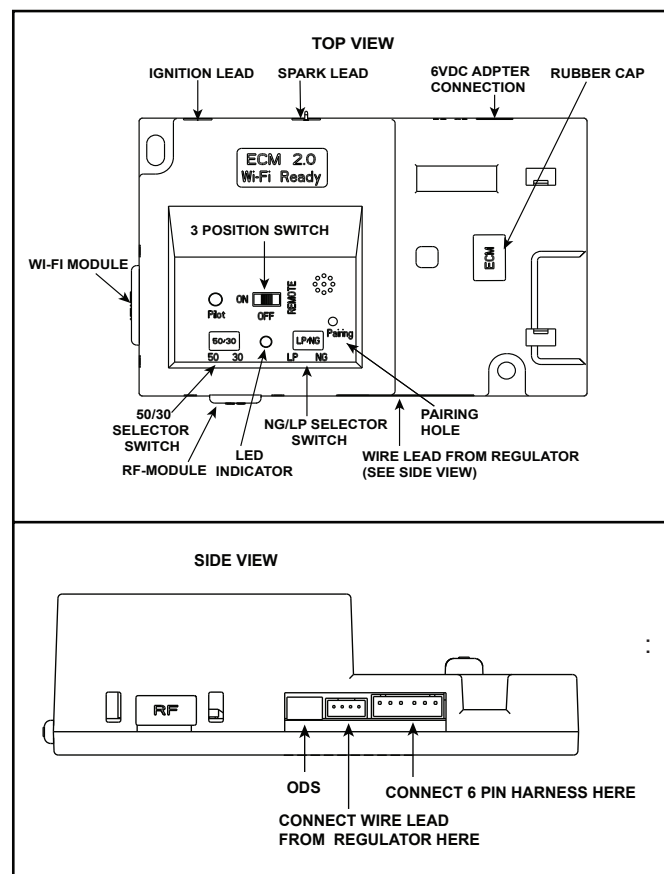

Figure 12. IFT-ECM 2.0
1. The Electronic Control Module (IFT-ECM 2.0) has a three-position ON/OFF/REMOTE selector switch that must be set for proper operation. See Figure 12. When changing switch positions, it is important to pause in each position for 1-2 seconds.